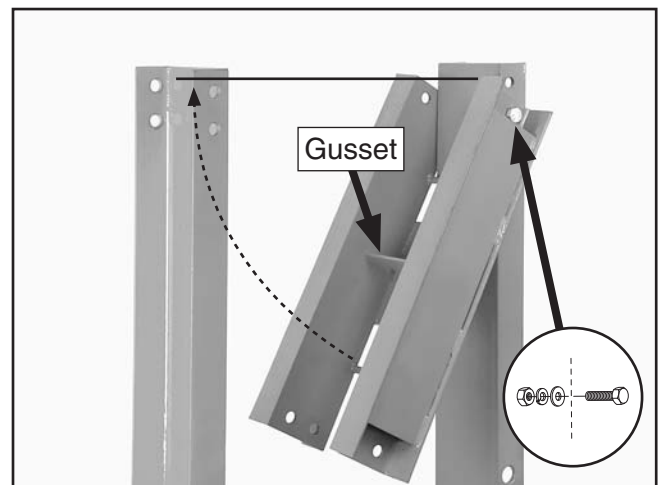

Figure 7. Upper cross-support installation.
6. With the help of your assistant, lift and position one side of the upper cross-support on the U-beam, and install one M16-2 x 35 hex bolt and finger-tighten with the matching flat washer, lock washer, and hex nut, as shown in **Figure 7**. Make sure that the gusset is at the upper side of the cross-support, as shown in **Figure 7**.
Note: The bolt installed in **Step 6** will serve as a hinge so the top cross-support can be swung into place as shown in **Figure 7**.